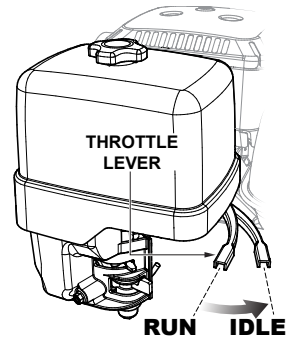

Figure 16. Throttle Lever (Idle)
3. Place the fuel shut-off lever (See Figure 16) in the **OFF** position